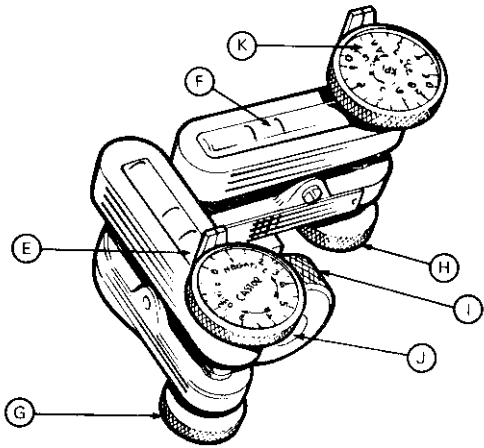

Figure 7 Castor gauge
Fit the Dunlop CG/5 gauge with caster dial to the left of spindle (E) and secure with knurled nut (**Figure 7**).
Set the castor dial on the top to zero (**Figure 7**).
Set castor dial to zero, centre the bubble (E) by turning the lower knurled screw (H) (**Figure 7**).